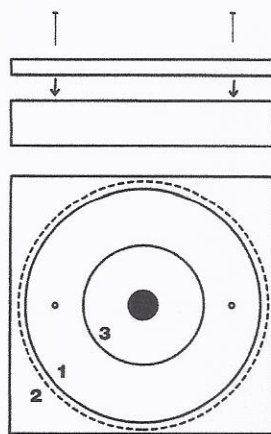

Fig. 1
2. With a compass, draw three circles on plywood: One at final wheel size, a second slightly larger, and a third about half way to center. See Fig. 1.